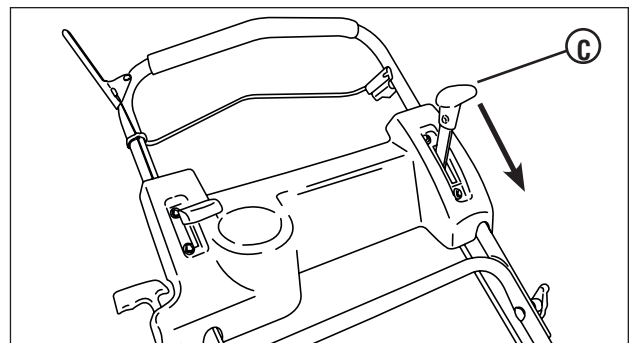

Figure 24: The ground speed control
1. Move the ground speed control (**A, Figure 24**) into the 'fast' position.